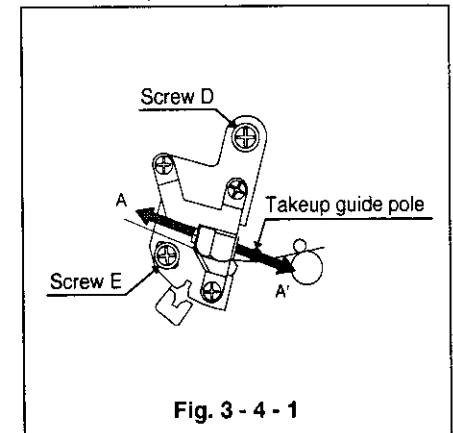

Fig. 3-4-1
- ⑦ If they are not within the specified value, repeat the procedure ③.
- ⑧ Turn the normal tracking control to adjust the FM waveform for maximum and set the oscilloscope so that the waveform is '5' divisions. (Refer to Note in Para. 3-2-5 about tracking adjustment.)
- ⑨ Preset tracking. (Refer to NOTE 1 in Para. 3.)
- ⑩ Check that the FM waveform on the oscilloscope is " 4.8 " or more divisions.
- ⑪ If the FM waveform is below " 4.8 " divisions, perform this adjustment after tracking preset.
- ⑫ Push the A/C head to the right and left (in the direction of A-A' in Fig. 3-4-1) and then release the A/C head. Check that the amplitude of the FM waveform does not change from that before shifting the A/C head.
- ⑬ If the amplitude changes, check if the A/C arm shaft is loose. If it is not loose, replace the A/C arm and repeat the procedure of this adjustment from the beginning, after the adjustment of A/C head in Item 3-3.
- ⑭ Alternately load and unload the tape several times to check that the amplitude of the FM waveform does not change.